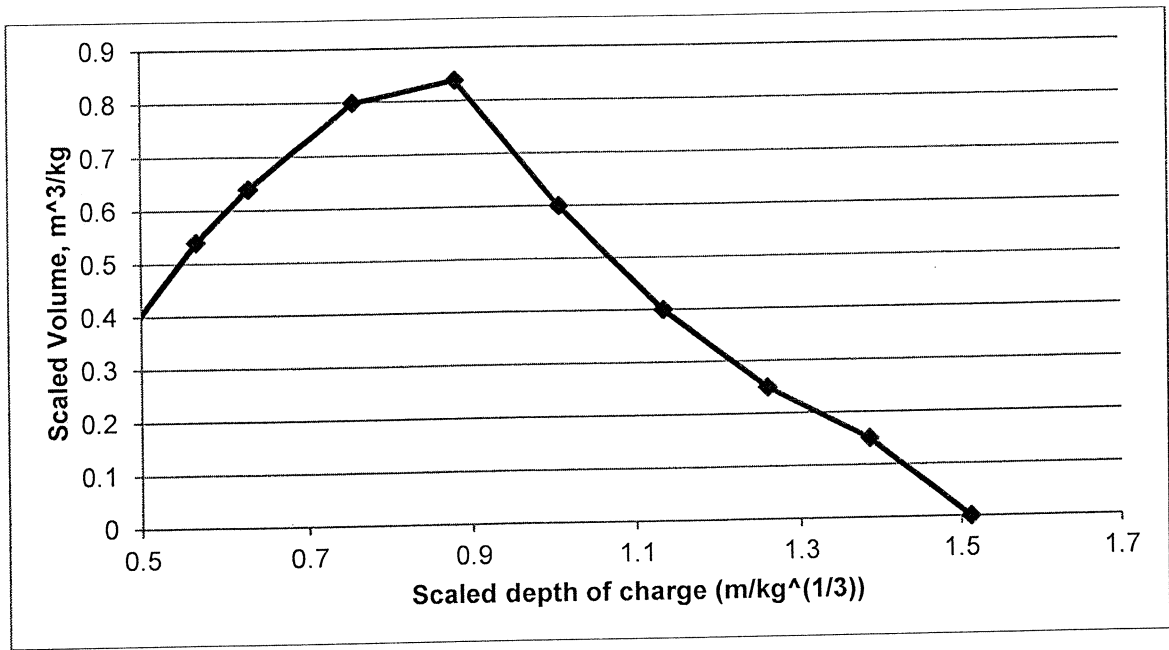

Figure 2. Cratering curve
- a. In a limestone quarry you are conducting blasting with boreholes having a diameter of 102 mm. The bench has a height of 12 m and the blast is loaded with emulsion, having density of 1.25 g/cm³. Figure 2 shows the results of cratering tests conducted in a similar material. The quarry wants to minimize flyrock, as a public road is at a distance of 300 m away, while controlling fragmentation. Ideally they want their 80% passing size to be around 50 cm. These objectives are currently achieved by trial and error using burden, spacing and collar length of 3 m, 4 m and 2.5 m respectively. To increase productivity the quarry wants to use holes with a diameter of 165 mm. Recommend appropriate pattern dimensions, blasthole loading and timing.